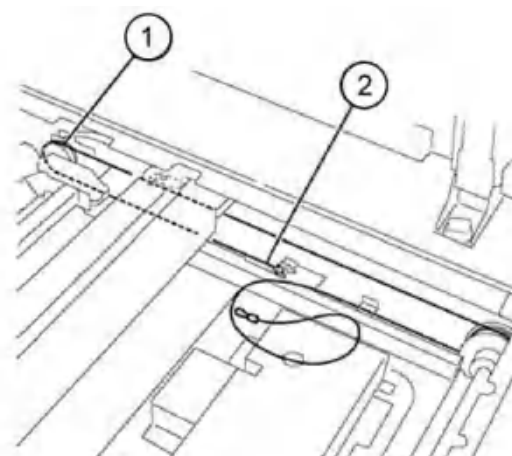
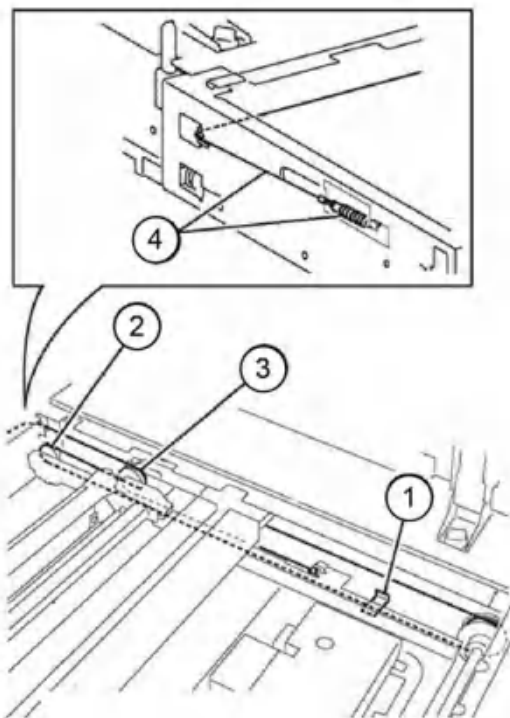

Figure 10 End-ball end installation
Figure 11 Spring attachment
5. Install the end-ball end of the carriage cable, Figure 10:
- Wrap the cable on the pulley at the front of the half rate carriage (1).
- Put the end-ball in the notch in the frame (2).
6. Attach the extension spring hanger end of the carriage cable, Figure 11:
- Remove the tape (1) that secures the cable.
- Wrap the cable on the pulley (2).
- Wrap the cable on the pulley at the rear of the half rate carriage (3).
- Attach the extension spring on the cable and hook it to the Frame (4).